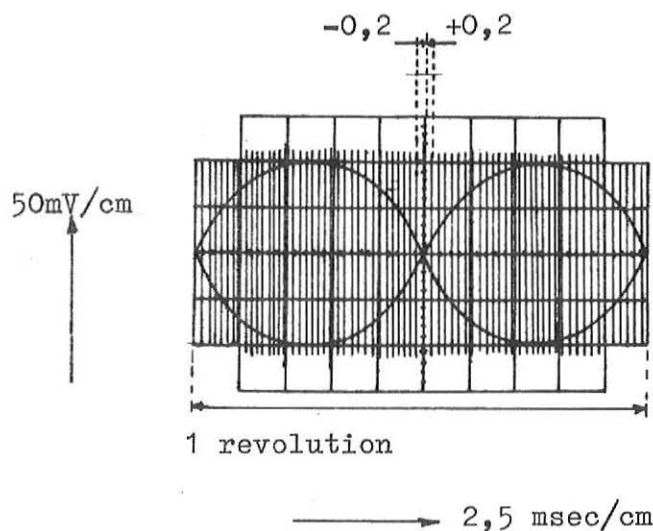

Fig 7-21
- 9) Adjust head 0 as shown in fig. 7-21.